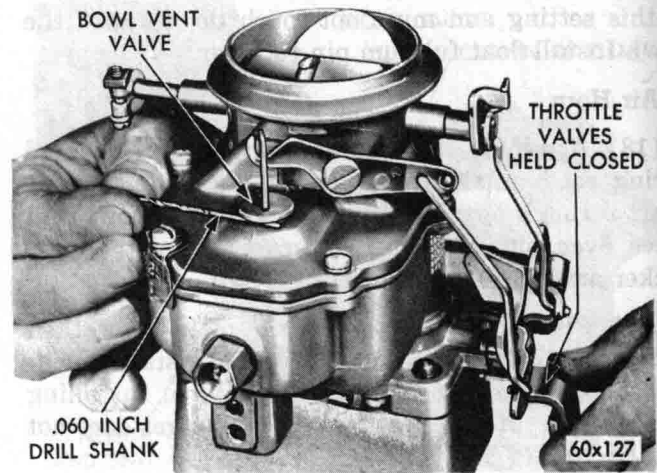

Fig. 20—Checking Bowl Vent Opening
(1) With the throttle valves held closed, it should be possible to insert a .060 inch drill shank between the bowl vent valve and the air horn, as shown in Figure 20.
(2) If an adjustment is to be made, bend the accelerator pump rod at the lower angle until correct clearance has been obtained.